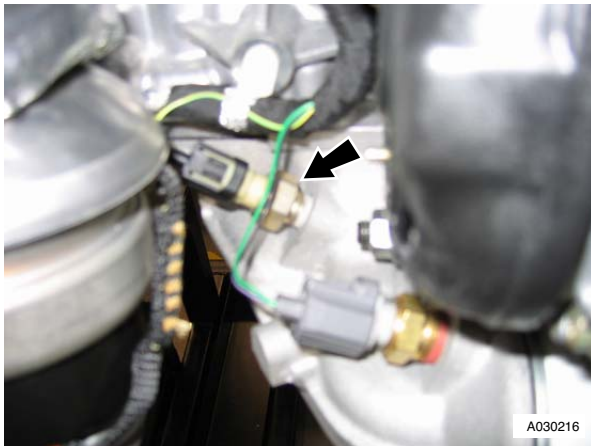

Figure 5
13. Disconnect multiplug from oil pressure sensor (see Figure 5).